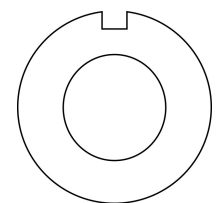

Figure 4-36 Air Rake Alignment Ring
3. Reinstall air rakes making sure that they are oriented as before with the notch on the alignment ring facing up, Figure 4-36.